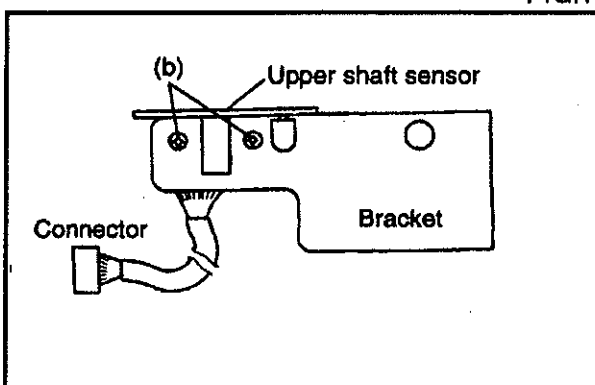

FIG.2
- (1) Mount the upper shaft sensor to the bracket with two retaining screws (b) (Fig.2).
- (2) Allow the connector to pass the arm and connect it to CN11 on the main circuit board and connect the connectors (1) and (2) (Figs. 2 and 3).